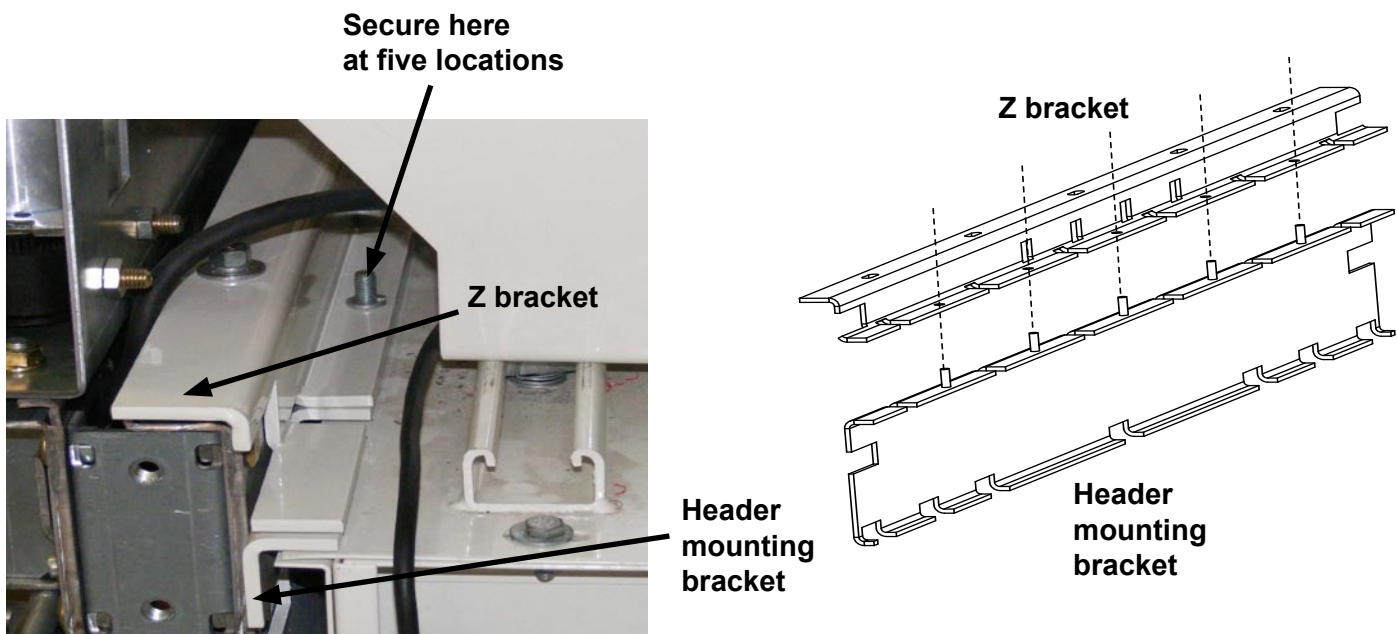

Figure 36 Secure to Header Mounting Bracket
- 7) Secure with a nut, washer and lock washer at each of the five bolts. See Figure 36.